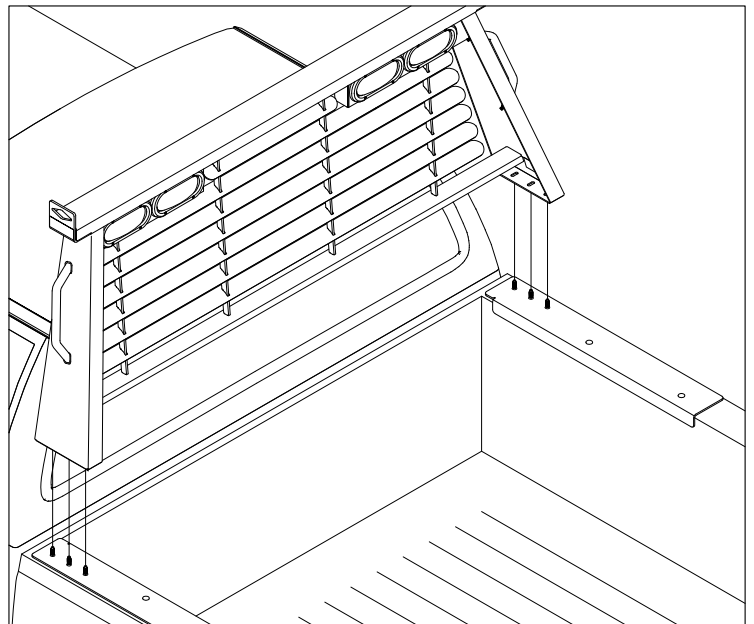

FIGURE B1
- 1. Install Cab Protector.** Position the slots on the bottom of the cab protector over threaded studs on the bed protectors, See figure B1. Fasten the cab protector with the provided 3/8" Large flat washers, lock washers, and finish nuts. Do not fully tighten. Make sure the cab protector is centered with the truck as viewed from the rear.